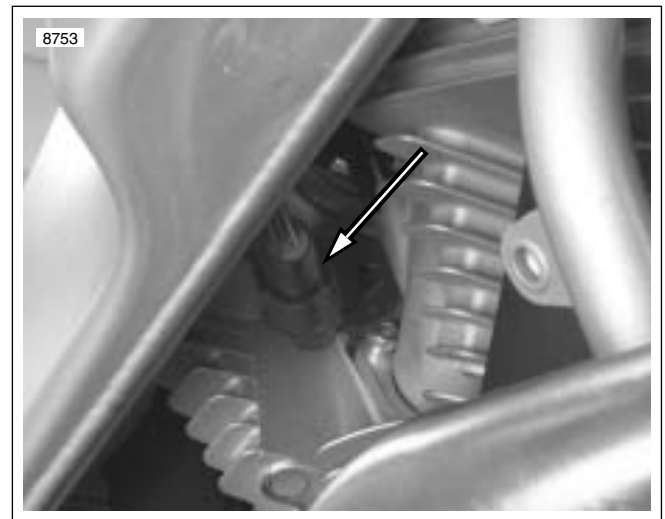

Figure 4-80. Throttle Position Sensor Location
2. See Figure 4-80. Disconnect throttle position sensor connector [88].
- See Figure 4-80. For the XB12R, the throttle position sensor is located on the opposite side of the throttle body assembly as on the XB9R.